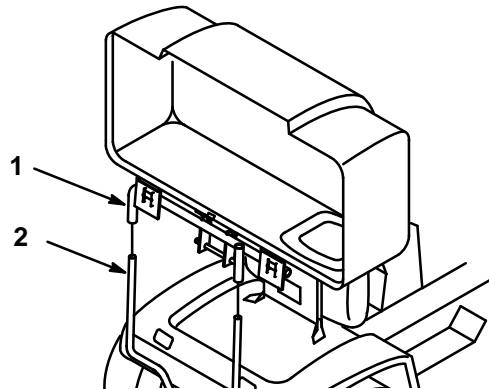

Figure 24
4. With lid in the open position carefully lift the bagger top and slide it onto the quick-attach bracket (Fig. 24).